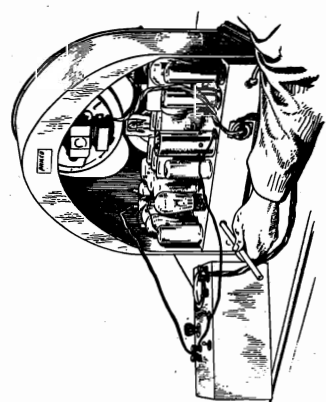

Fig. 1
1. Make the necessary connections between the oscillator and the receiver as shown in the illustration, Fig. 1. The connections consist of (a) the ground wire to the GND terminal of the radio set and to the G terminal of the oscillator; (b) the A terminal of the oscillator to the grid of the first detector tube (tube shield in place and first detector grid clip removed); (c) output meter terminals to the primary of the output transformer (this connection is obtained at the speaker plug and socket through the Philco plug-in adapter, part 0095); (d) power cord of receiver to the electric power outlet after all other connections have been completed.